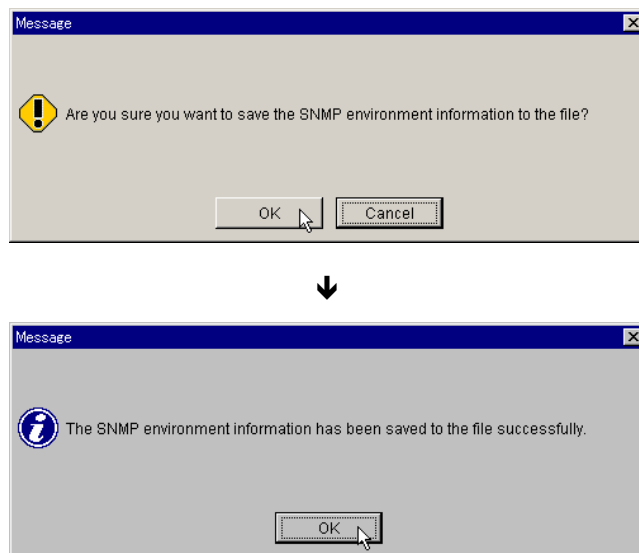

Figure 5.10 Output Confirmation Dialogue Box
6. A message appears, confirming that output to the file is complete (Figure 5.10). Click the **OK** button.